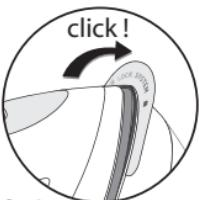

fig.3
- Unlocking – **fig.3**
- Lower the retaining hoop (depending on model) to unlock the safety catch – **fig.3.**